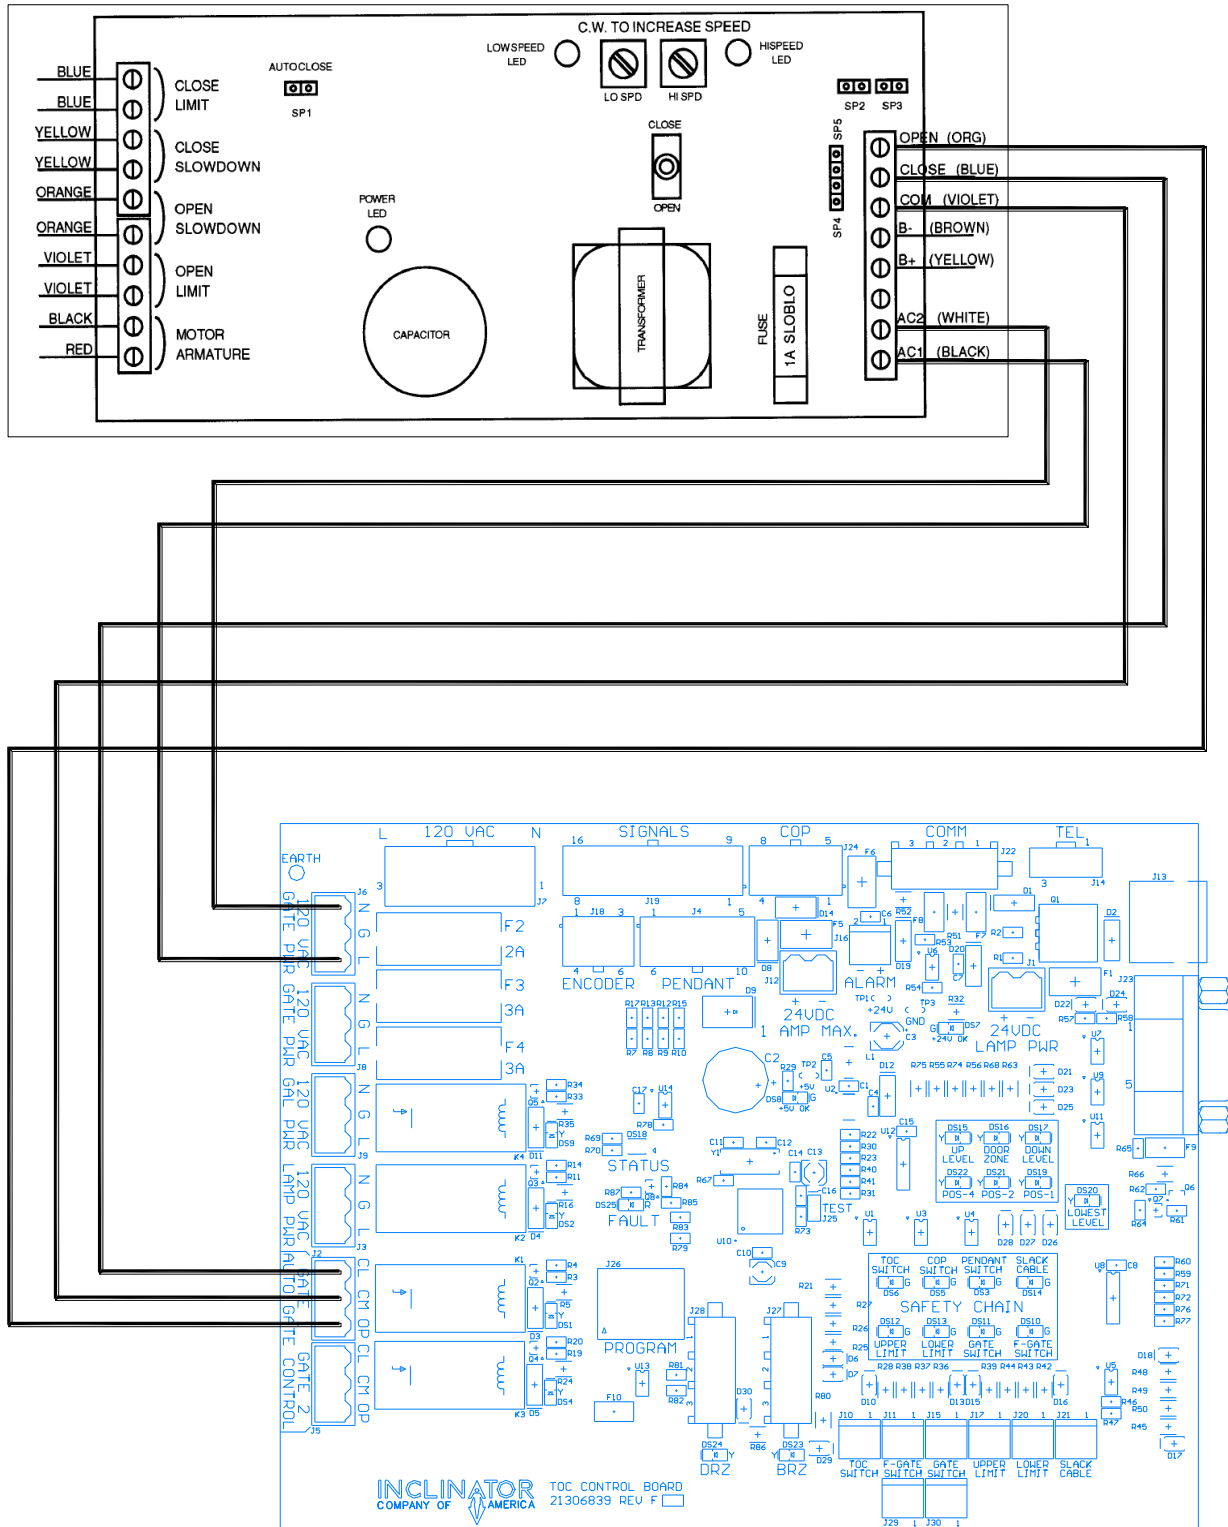

Figure 35 - Typical Auto Gate Power & Control Wiring
3. *Be sure to configure Auto Gate(s) in the UC601 setup menu. But most importantly, the Auto Gate itself must be configured for manual operation through its open & close dry contact inputs. Do not enable auto-close on the gate operator. See the Auto Gate manual for further details. See Figure 35 - Typical Auto Gate Power & Control Wiring*